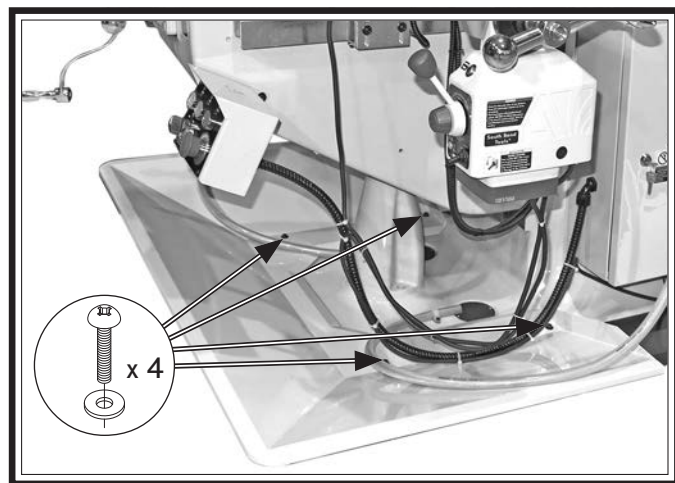

Figure 21. Splash pan installed.
7. Remove (4) Phillips head screws and flat washers (see **Figure 21**) from base, slide splash pan into position, and secure with removed screws.